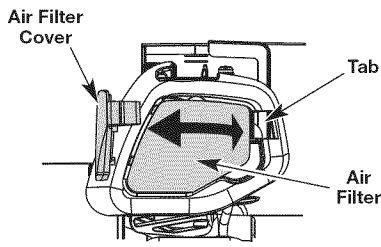

Fig. 26
1. Open the air filter cover by pressing the lock tab in and pulling out on the air filter cover (Fig. 26).
2. Remove the air filter (Fig. 26).
6. Replace the air filter into the base plate (Fig. 26).
7. Reinstall the air filter cover. Position the two small tabs on the air filter cover into the two slots in the base plate and press the air filter cover down, making sure to align the lock tab with the lock tab slot, until it snaps into place (Fig. 26).